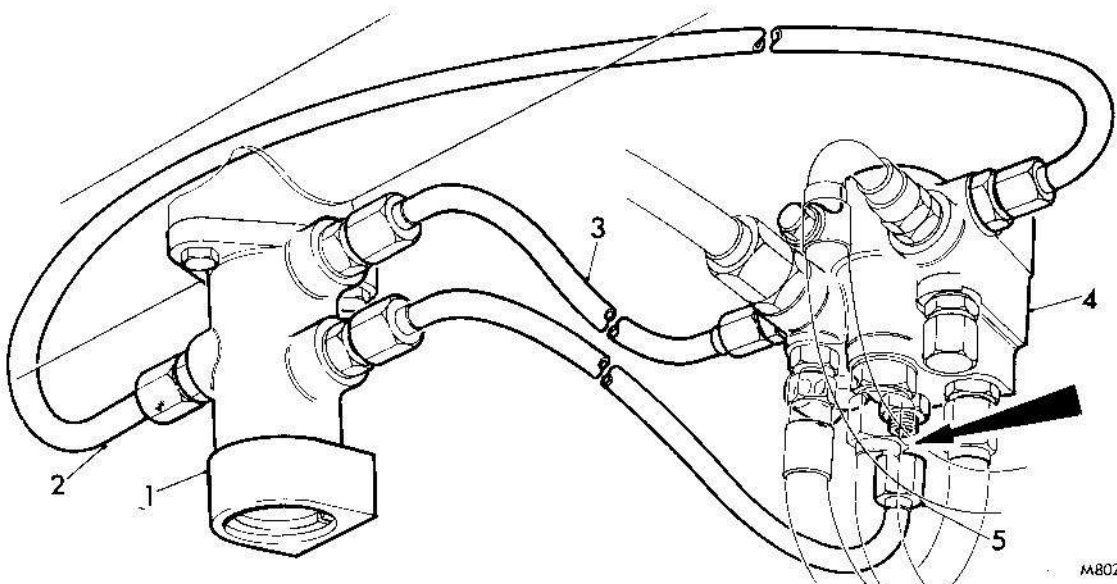

FIG. 4. THERMOSTATIC VALVE TEST POINT
3. Disconnect outlet pipe from thermostatic valve at switching valve, see arrow Fig. 4 and observe that the pilot flow drops to zero.